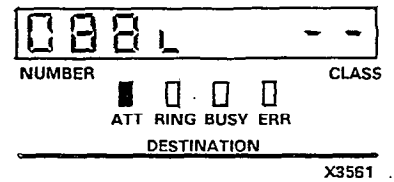

Figure 306-2
* DESTINATION display (Figure 306-2) shows number dialed; ATT lit
MAKE TRUNK NONBUSY (FIGURE 306-2)
- * DESTINATION display shows number dialed; ATT lit (Figure 306-2)